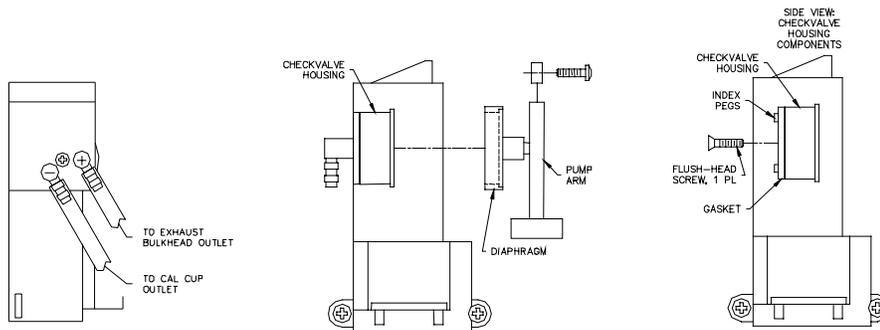

Figure 5: Check Valve Housing Replacement Details
- Remove the outlet fittings, pump arm with diaphragm and note the orientation of the check valve housing and gasket. See figures 5 and 6.